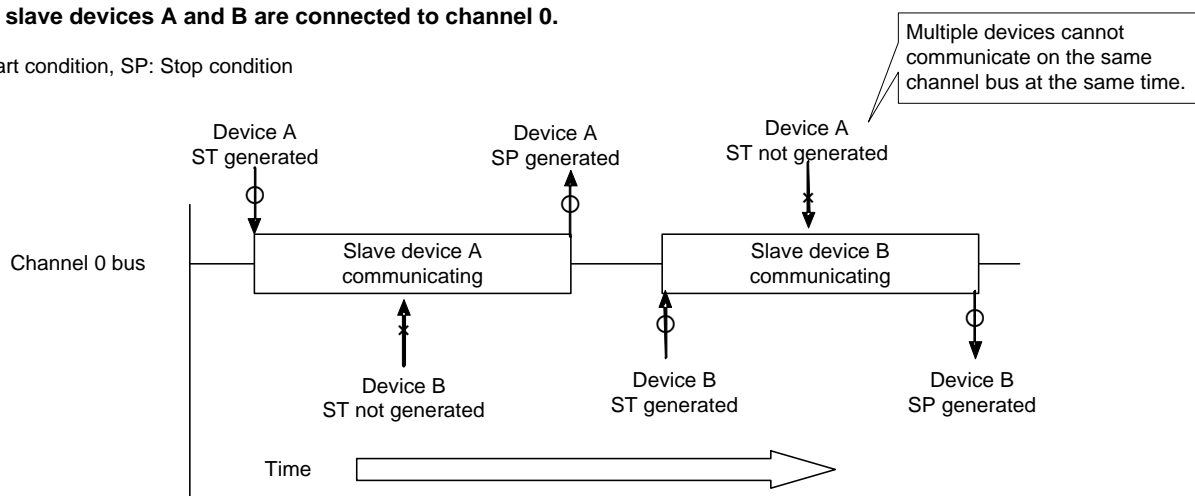

Figure 1.1 Example of Controlling Multiple Slave Devices
4. Multiple slave devices with different addresses on the same channel bus can be controlled. However, while communication is in progress (the period from start condition generation to stop condition generation), communication with other devices is not available. Figure 1.1 shows an Example of Controlling Multiple Slave Devices.